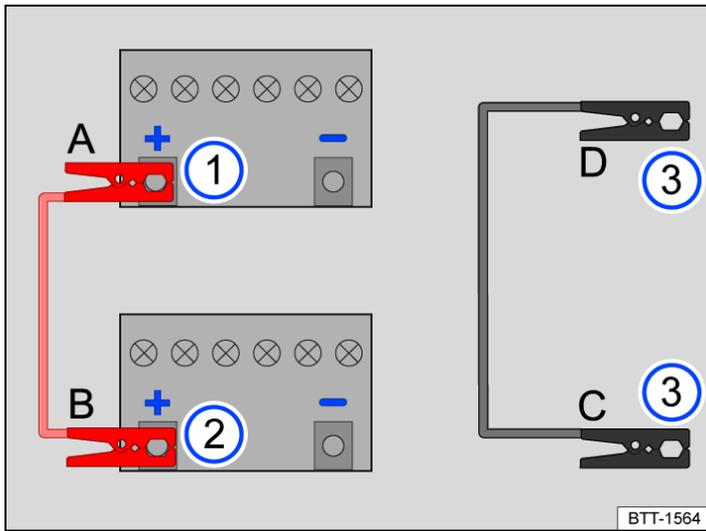

Fig. 1 How to connect the jump leads.
Key to *Fig. 1*:
The jump leads should be connected only in the order A - B - C - D → *Fig. 1*.
— Connect one end of the *red* jump cable A to the positive terminal + of the vehicle battery with the discharged 12-volt vehicle battery → *Fig. 1* ① → ⚠.
— Connect the other end of the *red* jumper cable B to the positive pole + of the vehicle giving current → *Fig. 1* ②.
— Connect one end of the *black* jumper cable C preferably to a jumper point(ground connection), otherwise to a solid metal part firmly screwed to the engine block or to the engine block itself of the vehicle providing power → *Fig. 1* ③.
— The other end of the *black* jumper cable D should preferably be connected to the jumper point(ground connection) of the vehicle with the 12-volt vehicle battery discharged, otherwise to a solid metal part firmly screwed to the engine block or to the engine block itself → *Fig. 1* , → ⚠.